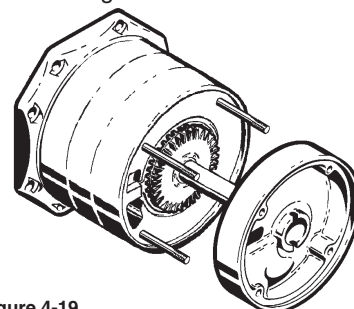

Figure 4-19
- b. Slide the channel ring onto the guide rods with the water channel facing down towards the impeller. The small outlet opening should be on the opposite side from the pump inlet. Refer to Figure 4-19. Push on firmly until the "O" ring fits inside the lip in the previously installed channel ring.
- Slide the channel ring onto the guide rods with the water channel facing down towards the impeller. The small outlet opening should be on the opposite side from the pump inlet. Refer to Figure 4-19. Push on firmly until the "O"ring fits inside the lip in the previously installed channel ring.